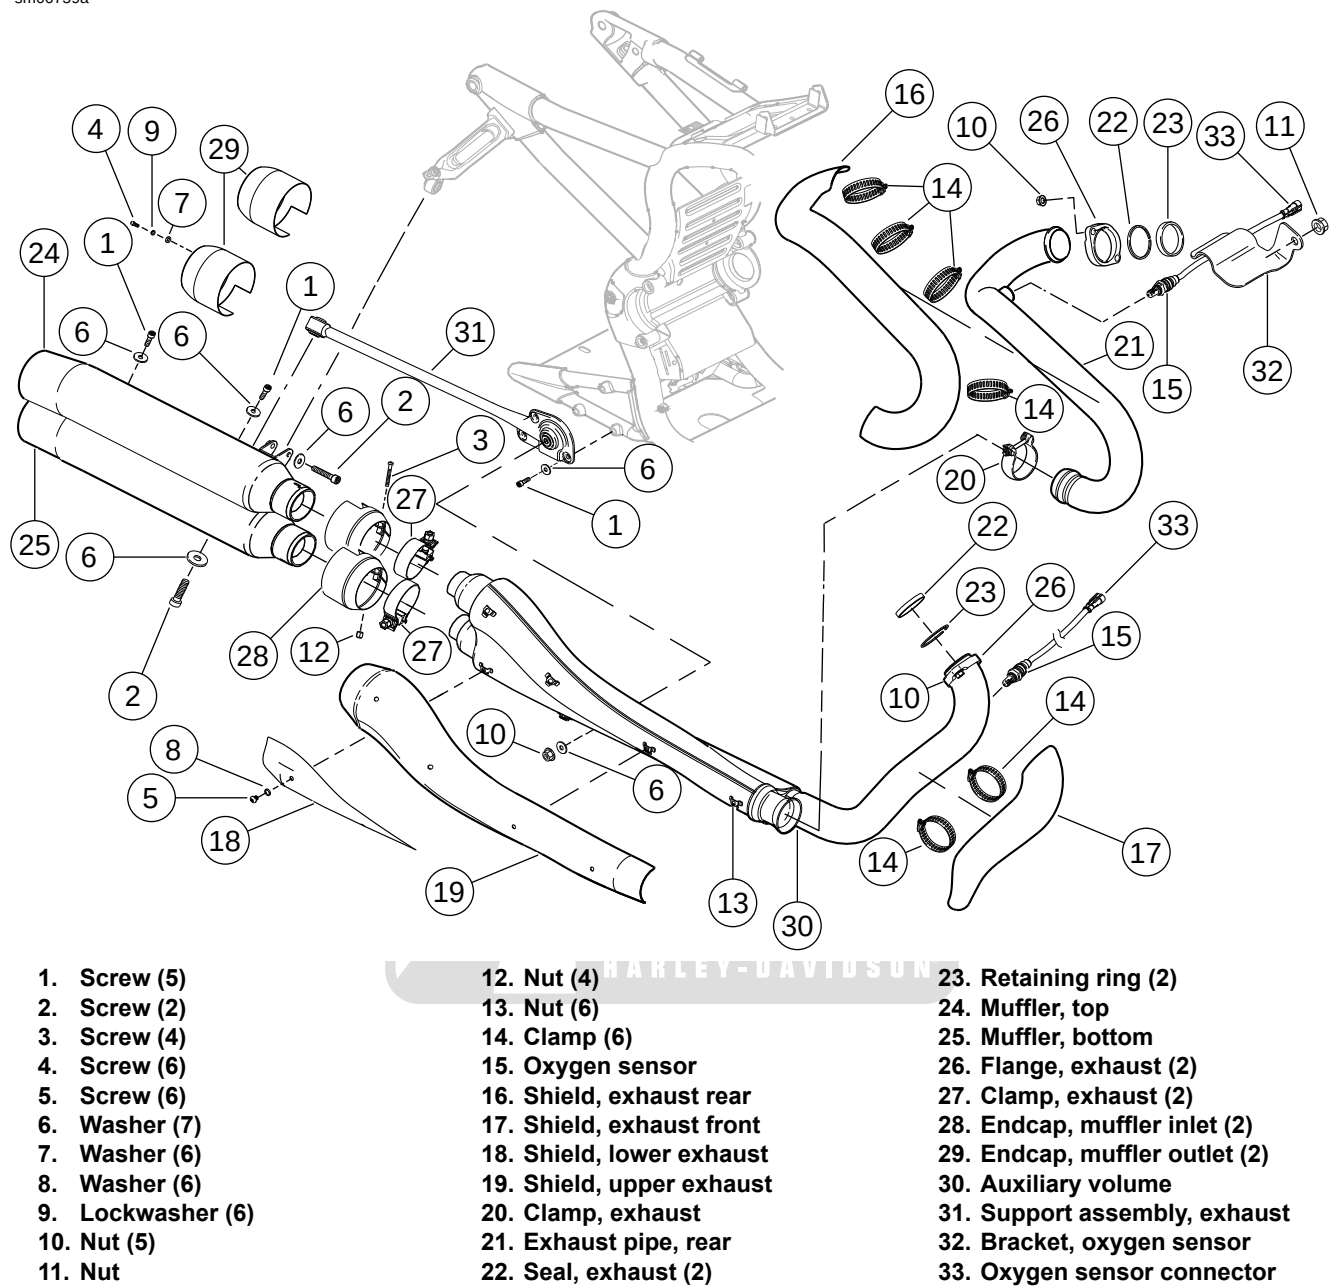

Figure 4-32. Exhaust System VRSCDX
2. See Figure 4-32. Remove exhaust heat shields (16, 17, 18, 19).
4. Remove nuts (10) holding exhaust flanges to cylinder heads.
5. Loosen clamp (20).
6. Loosen but do not remove nut (11) from oxygen sensor bracket (32).
7. Disconnect oxygen sensor connectors (33) from wiring harness.
8. Remove rear exhaust pipe (21).
9. Loosen clamps (27).
10. Remove screws (1) and screw (2) from upper muffler (24) and remove muffler from motorcycle.
11. Remove screw (2) and remove lower muffler (25) from motorcycle.
- See Figure 4-32. Install **new** exhaust seals (22) and retaining rings (23).
- Gently lift auxiliary volume (30) into position.
- Slip front exhaust flange (26) over studs on front cylinder head and thread nuts (10) on flange studs. Do not tighten.
- Install lower auxiliary volume nut (10).
- Install muffler outlet endcaps (29), washers (7), lock-washers (9) and screws (4) on mufflers. Tighten screws to 1.7-2.3 Nm (15.0-20.3 **in-lbs**).
- Install muffler inlet endcaps (28), screws (3) and nuts (12) on mufflers. Tighten screws to 0.6-1.2 Nm (5.3-10.6 **in-lbs**).
- Install rear exhaust pipe (21) using **new** clamp (20).
- Slip exhaust pipe flange (26) over studs on rear cylinder head and thread nuts (10) on flange studs. Do not tighten.
- Install **new** clamp (27) on lower muffler (25). Slide muffler over lower opening of auxiliary volume. Position clamp with fastener inboard with tightening nut facing upward.
- Install **new** clamp (27) on upper muffler (24). Slide muffler over upper opening of auxiliary volume. Position clamp with fastener inboard with tightening nut facing upward.